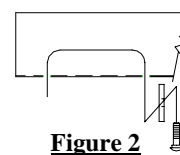

Figure 2
- Fishwire 1/2-13 carriage bolt and spacer block through access hole and back down through same hole (see figure 2)